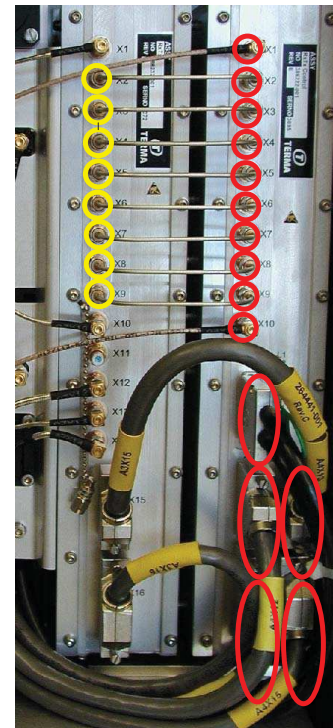

Fig. 7.26 Connectors
- 3 On RxTx Control, loosen all SMA connectors (X1 - X10) using tools 13/14, four D-Sub connectors (X12, X13, X14, X15) using tool 11 and one PCIe connector (X11) as indicated on the RxTx Control module with red circles and ellipses - see Fig. 7.26 \(p. 132\).
- 4 On the RxTx to the left of the RxTx Control, loosen SMA connectors X2 - X9 to remove or turn the semi-rigid cables so the RxTx Control can be pulled out without any obstructions - use tools 13/14. Indicated with yellow circles in Fig. 7.26 \(p. 132\).